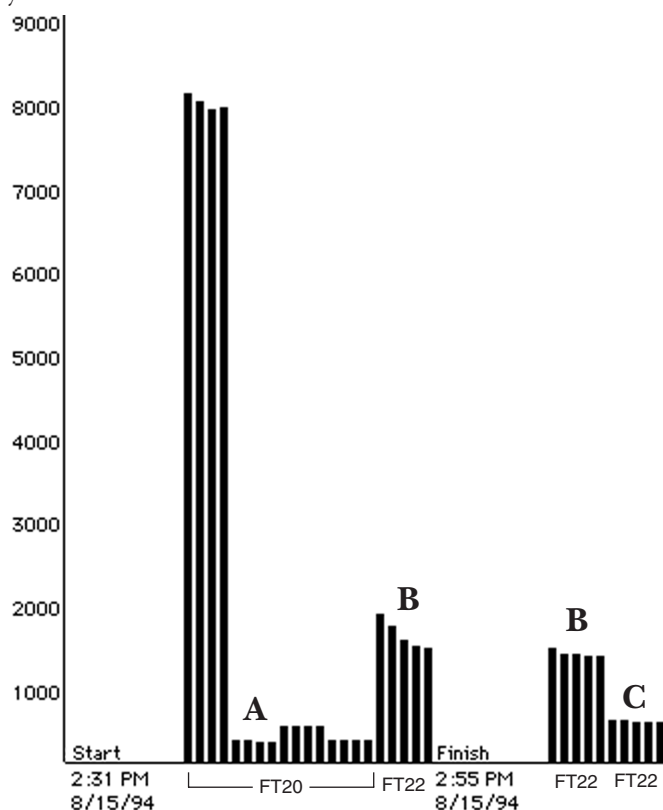

Figure 6-2. Effect of piperidine quality on Flow Tests 20 and 22
Figure 6-2 illustrates the inadvisability of using non-Aldrich-supplied piperidine. Flow Tests 20 (Module b) and 22 (Module d) were run using piperidine from a vendor other than Aldrich. Although the resulting conductivity values (A) are reasonable when the piperidine is used alone, the values generated when using a piperidine/NMP mixture (B) are too high to be used for conductivity monitoring of a synthesis. When piperidine supplied by Aldrich is used, the values for the piperidine/NMP mixture (C) are in the expected range and can be used in a conductivity-monitored synthesis.